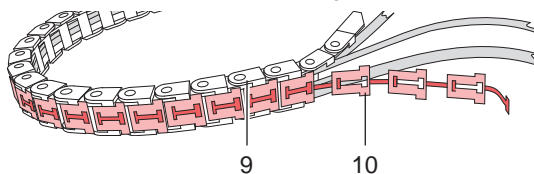

Figure 16 Open the energy track
- Loosen screws (8) to dismount the energy track on one side only.
- Detach the into one another looked divide in T-form (10) from the divide in U-form (9) of the energy track. (Figure 16)
- Close the energy track again. Press in the T-form (10) pieces into the U-form (9) pieces.
- Mount the energy track and tighten the screws (8).